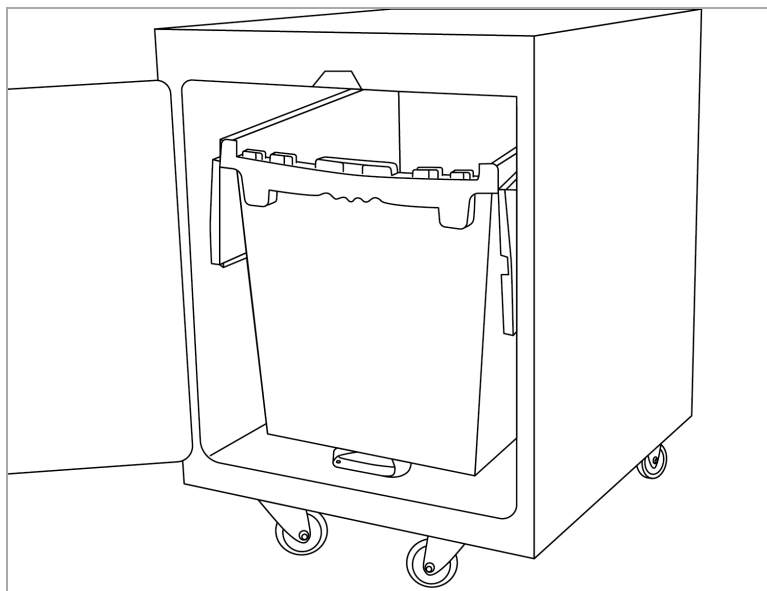

Figure 3-17. Bin placed inside the collapsible ballot box
12. Open the flaps of the ballot bin and place it inside the ballot box (Figure 3-17).